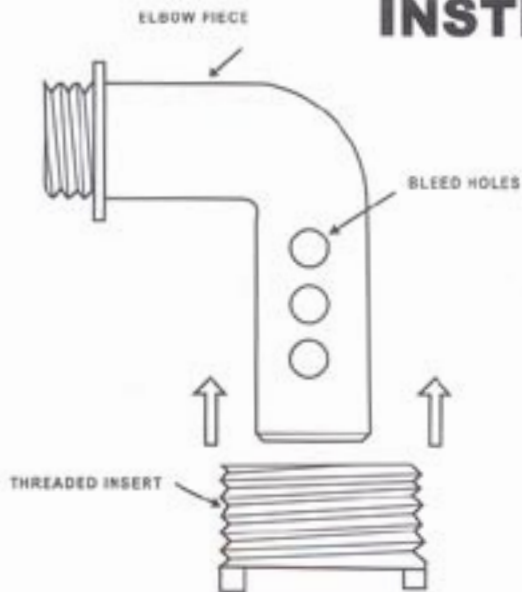

FIGURE 4
2. Slide the threaded insert (5) over the Elbow Piece (6) as shown in Fig 4. The threaded insert (5) is a tight fit around the turn in the Elbow Piece (6) therefore, slight pressure is needed. This is your inlet adapter.
3. Refer to Figure 1. Uncoil the hose (3) and remove all twist. Using clamps (15), clamp one end of the hose to the back side of the fountainhead (1), and the other end to the inlet adapter from step 2. Cover one set of bleed holes with the hose (Fig. 4). To tighten clamp, grasp "tabs" between thumb and forefinger and squeeze. Tighten securely with a pair of pliers. To open the clamp, grip one "tab" of the clamp with pliers and twist loose.
4. Using the tie wrap (14), LOOSELY attach the anchor (4) to the hose (3). The anchor (4) should be attached to the hose (3) at a point as deep as the water plus approximately two feet. You will have to estimate what the water depth is where you want the fountain and add two feet. **CAUTION: DO NOT CONSTRICT THE HOSE BY TIGHTENING THE TIE WRAP (14) TOO TIGHT**
6. Place the fountain assembly into the pool. Position the fountain in the desired location being careful not to crimp the hose (3).